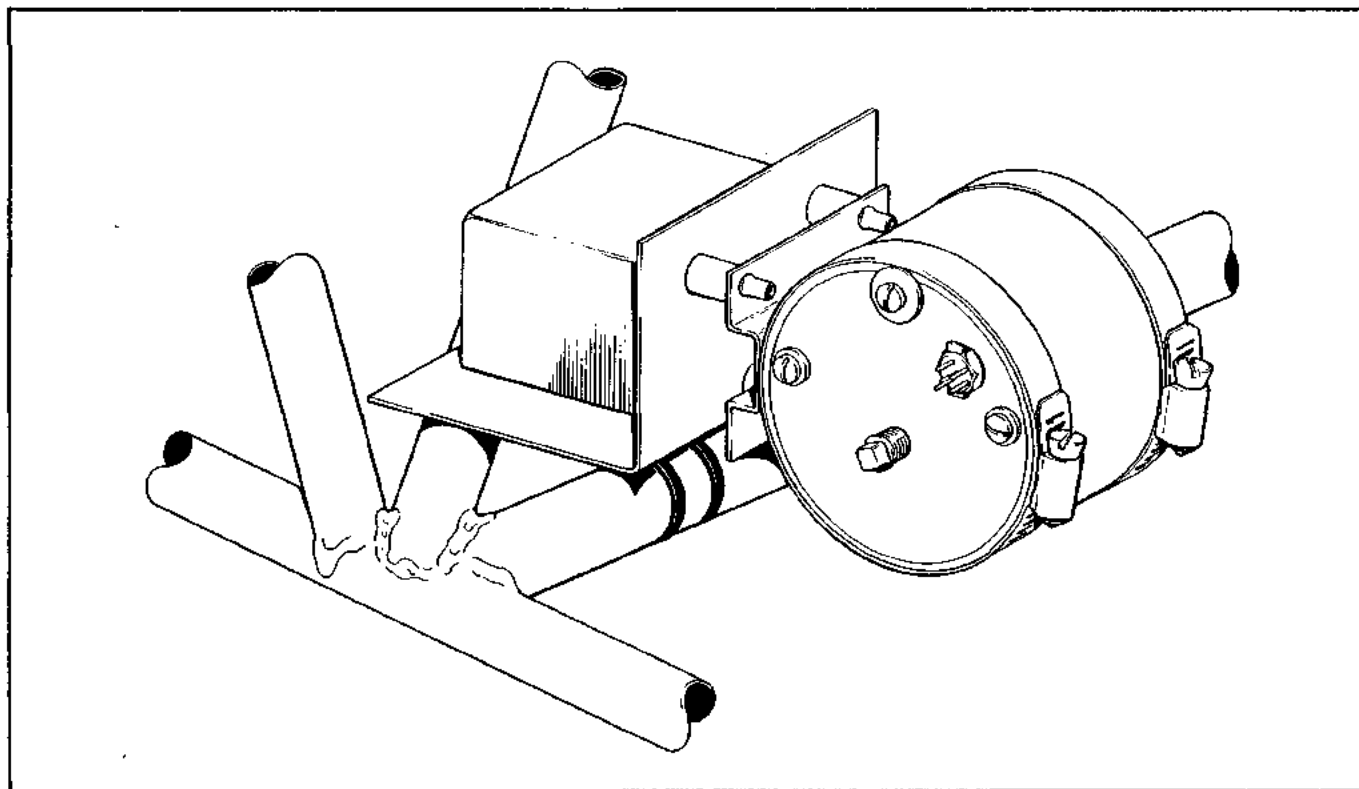

Figure 3-14. AltiMatic III C Altitude Hold Unit (IC407) and Relay Box
**3-15. INSTALLATION OF ALTITUDE HOLD UNIT. (PA-23-250 Six Place) E & F Models. (Refer to Figure 3-14.)**
**3-17. INSTALLATION OF RELAY BOX. (PA-23-250 Six Place) E & F Models. (Refer to Figure 3-14.)**